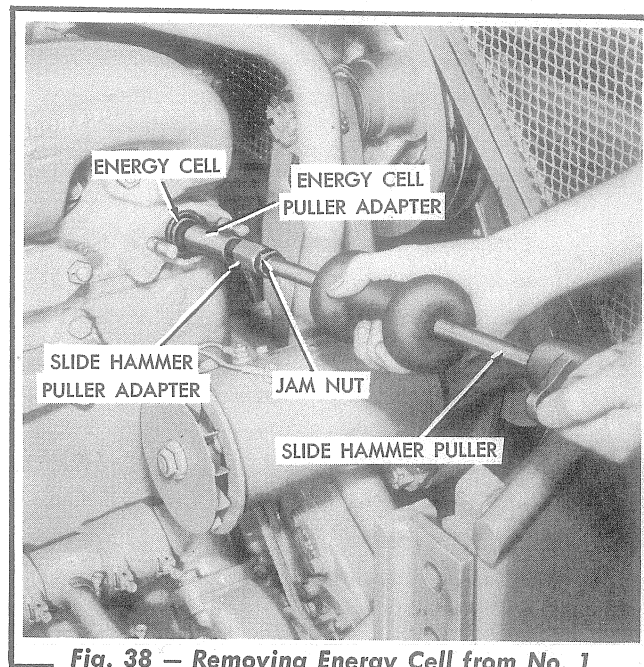

Fig. 38 — Removing Energy Cell from No. 1 Cylinder (Tractors Prior to Serial No. 4001)
- c. Using tools similar to the ones shown in Fig. 38, pull the energy cell from the cylinder head.